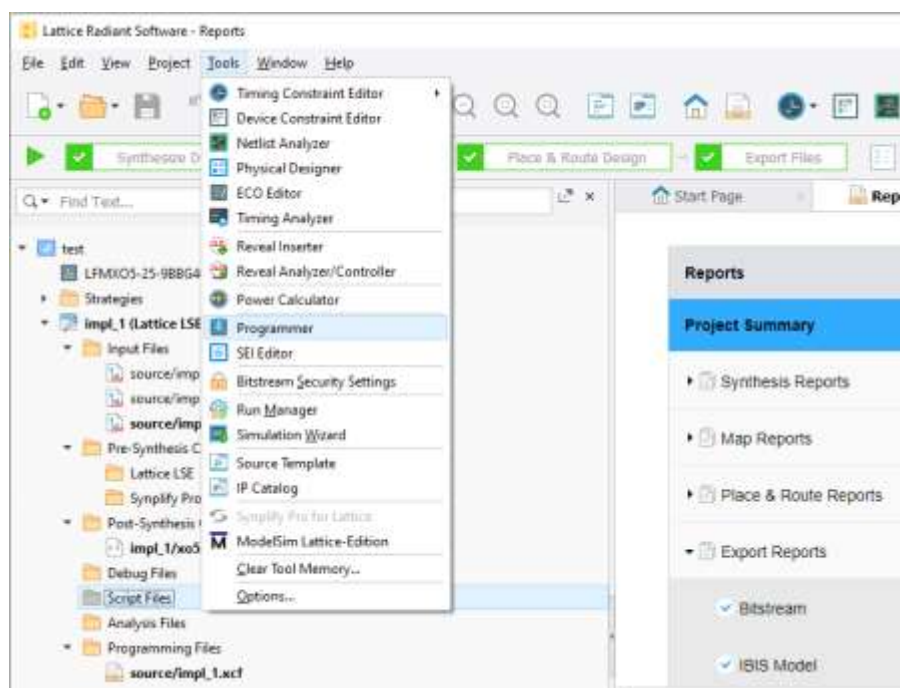

Figure 9.1. Radiant Software – Radiant Programmer
2. In Radiant Software, click **Tools > Programmer**, as shown in Figure 9.1.